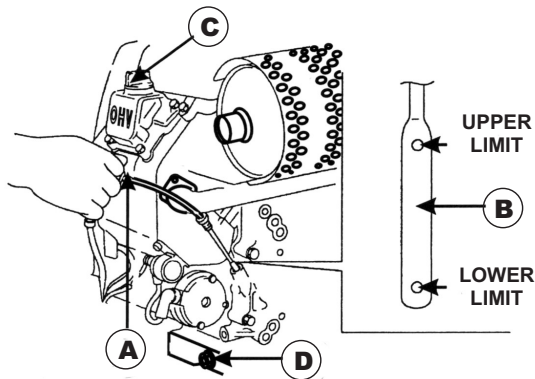

Figure 8. Engine Oil Service
2. Remove the dipstick from the engine oil filler hole (Figure 8) and wipe it clean.
4. If the oil level is low (Figure 8), fill to the edge of the oil filler hole with the recommended oil type (Table 5). Maximum oil capacity is 400 cc.